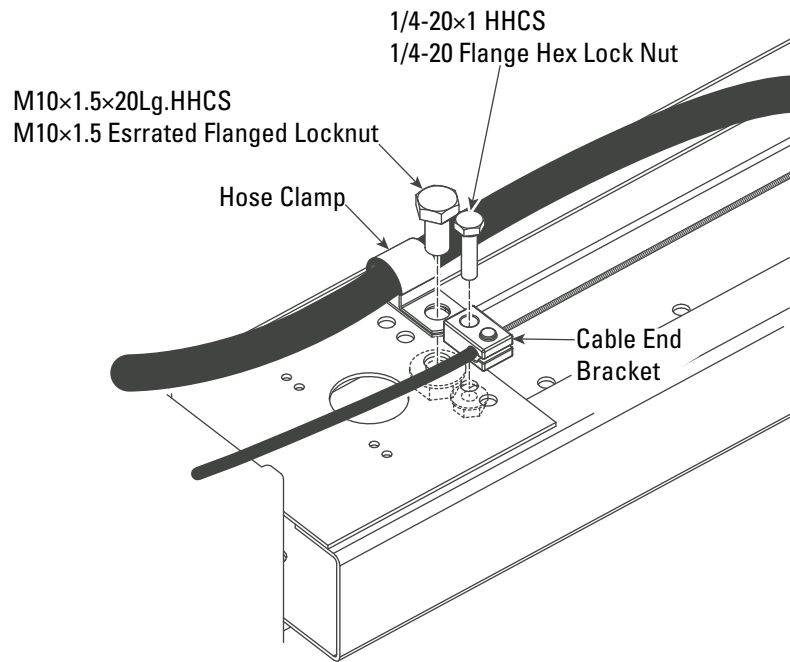
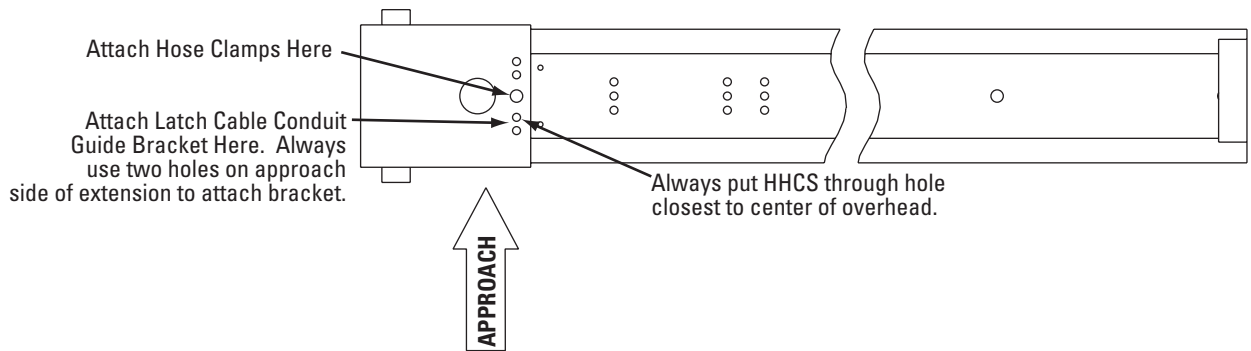
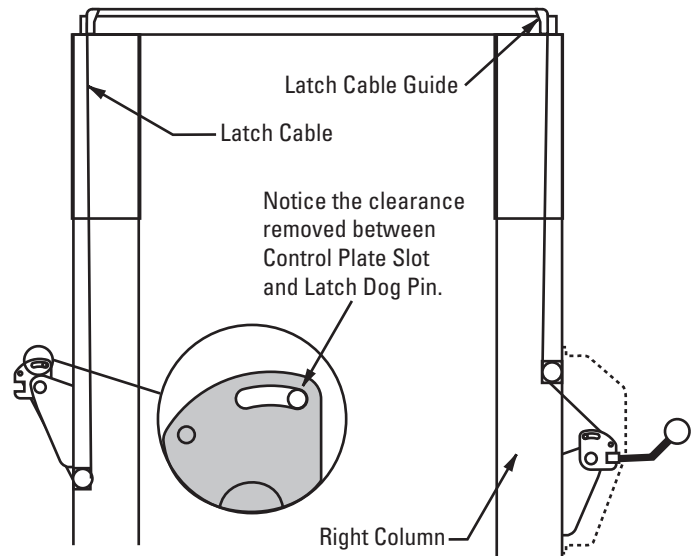
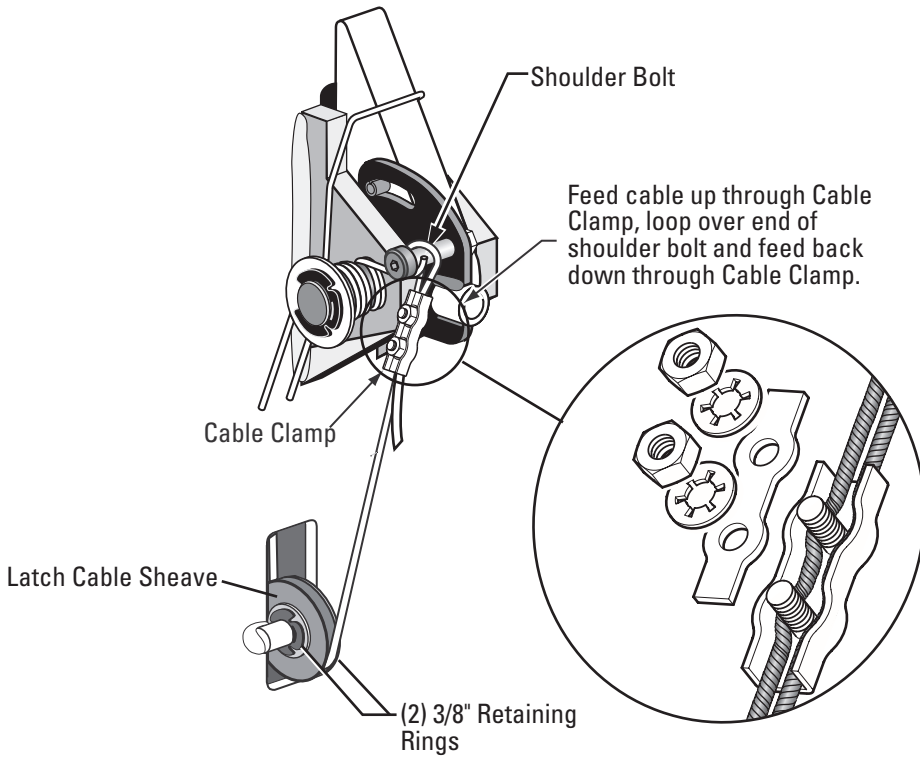

Figure 12
Figure 12a
Figure 14
Figure 15
- D) Attach latch cable conduit guide brackets to overhead as shown, Fig. 12 & Fig. 12a. Always use the holes on the approach side of the lift. HHCS should be in hole nearest the center of the overhead, Fig. 12a.
- E) Route cable up inside column and through the latch cable guide, Fig. 12a & Fig. 14.
IMPORTANT Using wire ties provided, tie off cable guide to column extension as shown, Fig. 12a. Guide must be attached in hole closest to the outside edge of the column on the NON-APPROACH side.
- F) Continue routing cable to the left column latch cable guide, Fig. 12 & Fig. 14, routing the cable through the left column latch cable guide, Fig. 12.
- G) Bring the cable down inside the left column and feed the end of the cable through the lower latch cable sheave slot so that the cable is now back outside the column, Fig. 15.
- H) Install latch cable sheave and retaining rings in lower slot of non-power unit column as shown, Fig. 15.
- I) Route cable under the bottom side of the latch cable sheave, Fig. 15.
- K) Insert cable in cable clamp along one side, loop around shoulder screw and back down, inserting cable along other side of cable clamp, Fig. 15. Place top back on clamp, barely tightening.
- L) Next, pull the control plate down, Fig. 14 & Fig. 15, to eliminate any clearance between the control plate slot and the latch dog pin, Fig. 14.